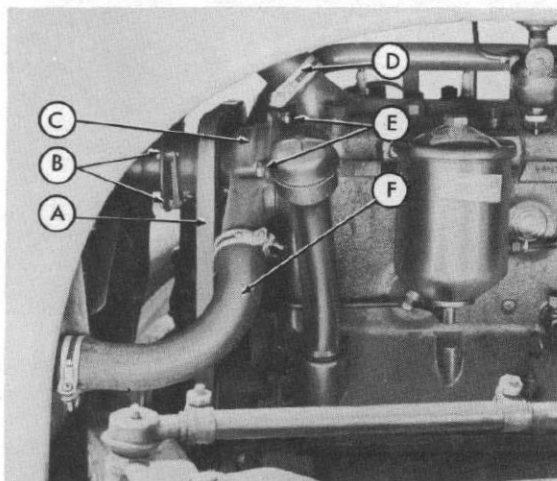

Fig. 1
- Step 1—Disconnect the upper radiator hose (D-Figure 1).
- Step 2—Remove the fan belt (A-Figure 1).
- Step 3—Remove four cap screws (B-Figure 1) holding the fan and remove the fan assembly.
- Step 4—Disconnect the lower radiator hose (F-Figure 1).
- Step 5—Remove the cap screws and stud nuts (E-Figure 1) and remove the pump assembly (C-Figure 1) from the engine.